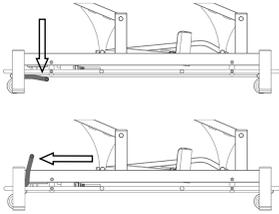

Figure 1 Control rod
- Push the control rod down (it is recommended to use your feet to push) to activate the casters. When the casters are on the ground the table is in a moving status.(Figure 1)
- Push the control rod up (it is recommended to use your feet) and the casters are in the retracted status. When the casters are retracted the table is in a fixed position.(Figure 1)